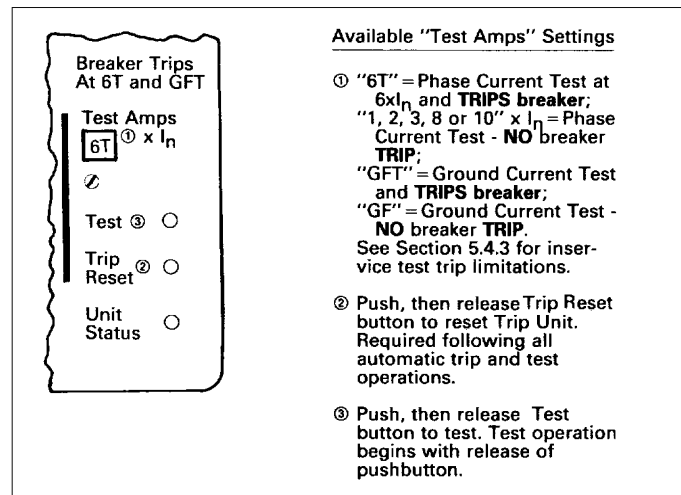

Fig. 5 Integral Test Panel (Lower Right Corner of Trip Unit)
As indicated in Fig. 5, six different “Test Amps” settings (1, 2, 3, 6T, 8 and 10X I_n) are available for testing the phase elements of the trip unit, and two (GF, GFT) are provided for testing the ground elements.
1. Place the "Test Amps" selector switch (See Fig. 5) in one of the six "No Trip" test settings, i.e., 1, 2, 3, 8, or 10, $\times I_n$, or GF.
2. Place the "Test Amps" selector switch (See Fig. 5) in one of the two "Trip" test settings, i.e., 6T or GFT.
3. Depress the black "Test" pushbutton (See Fig. 5) and release it - the test is initiated when the pushbutton is released.
5. Reset the trip unit by depressing and releasing the "Trip Reset" pushbutton (See Fig. 5). All LEDs lighted by the "Trip" test action should turn "OFF".